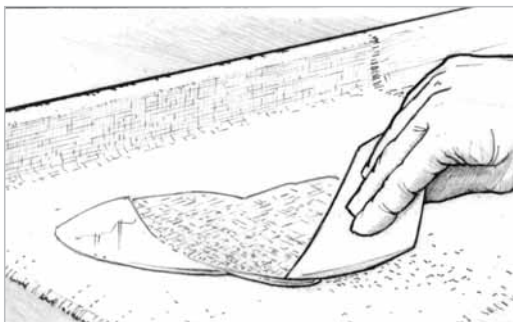

Figure 5-17 Spread the epoxy from the center of the fabric toward the edges with a plastic spreader.
5. Spread the epoxy over the cloth surface with a plastic spreader, working the epoxy gently from the pool into the dry areas (*Figure 5-17*). Use a foam roller or brush to wet out fabric on vertical surfaces. Properly wet out fabric is transparent. White areas indicate dry fabric. If you are applying the cloth over a porous surface, be sure to leave enough epoxy to be absorbed by both the cloth and the surface below it. Try to limit the amount of squeegeeing you do. The more you “work” the wet surface, the more minute air bubbles are placed in suspension in the epoxy. This is especially important if you plan to use a clear finish. You may use a roller or brush to apply epoxy to horizontal as well as vertical surfaces. Smooth wrinkles and position the cloth as you work your way to the edges. Check for dry areas (especially over porous surfaces) and re-wet them as necessary before proceeding to the next step. If you have to cut a pleat or notch in the cloth to lay it flat on a compound curve or corner, make the cut with a pair of sharp scissors and overlap the edges for now.